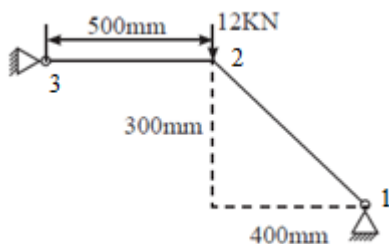

fig 1.
- 3 Determine the nodal displacements, stress on each element and reaction for the structure shown in fig 1. Take $E = 2 \times 10^5$ MPa, $A = 200\text{mm}^2$.